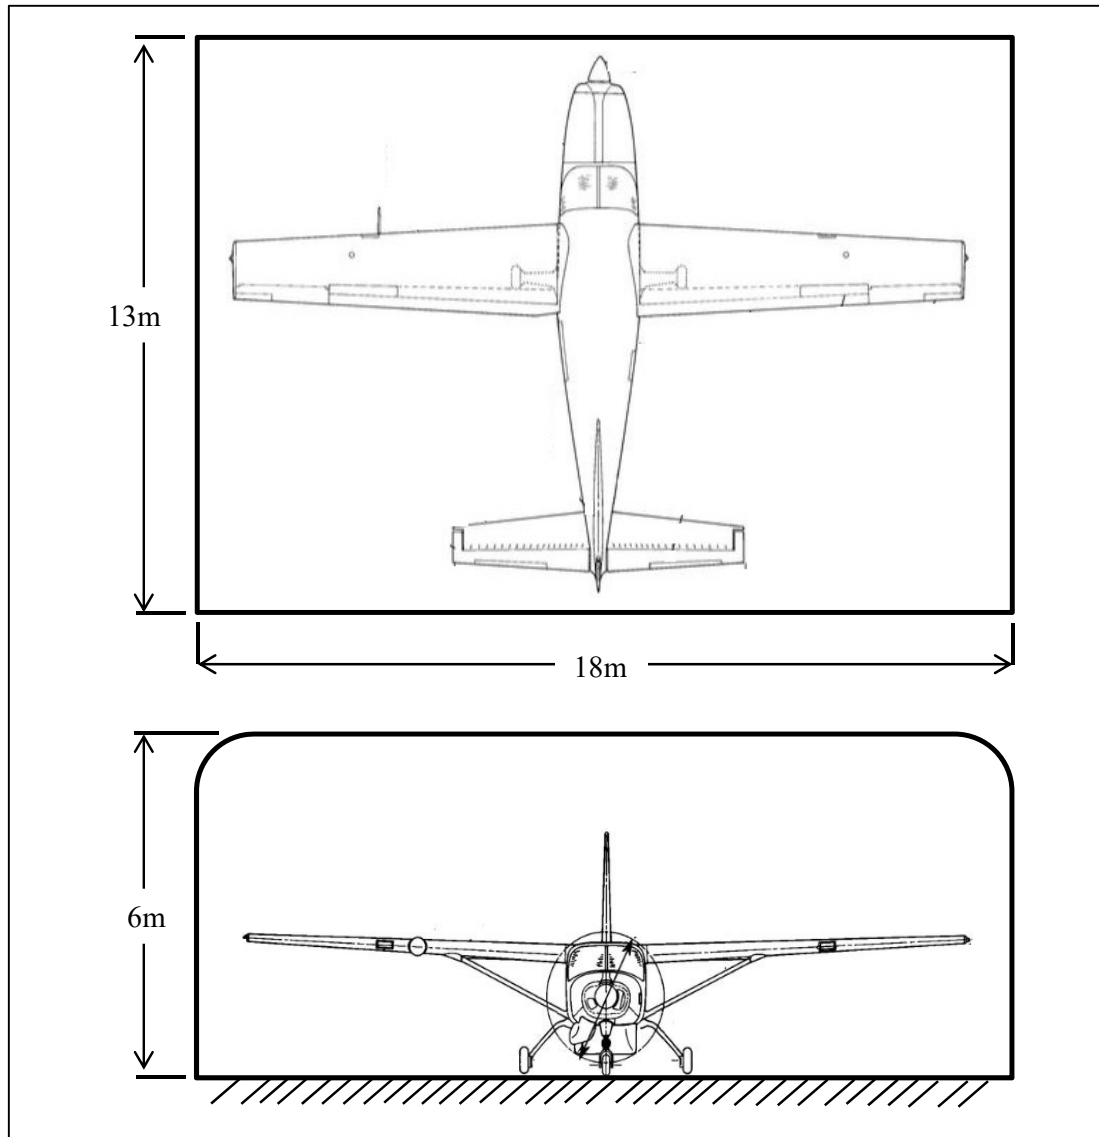

Figure 1 – Size of Hangar Requirement
- Size of Hangar have minimum requirement (See Figure 1)